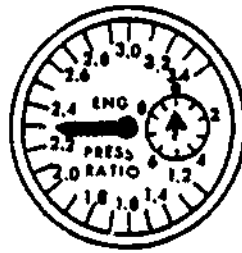

Figure 7.
You may be confused as to the meaning of the number on the dial. The following is an explanation: They mean simply this - If you divide P_{t7} by P_{t2} your answer is the ratio of the two pressures. For example, if P_{t7} pressure is 6.9 and P_{t2} is 3.0 inches of mercury, their ratio is $\frac{6.9}{3.0} = 2.3$. The indicator then, reads 2.3 EPR units with these pressures applied to the operating transducer. See figure 7.
1. The indicator in figure 7 indicates _____ EPR units.